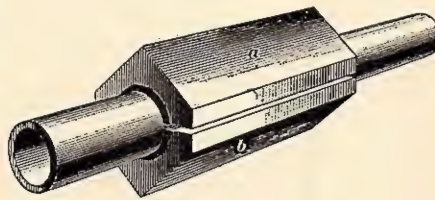

FIG. 23
33. Friction clamps made as shown in Fig. 23 are used for fixing a pipe in the pipe vise. The clamps a and b are made to fit the jaws of an ordinary vise, and the curve is formed to fit a standard size of pipe. The curve is lined with rubber or some other soft body. The pipe-vise jaws compress a and b and the pipe then cannot slip. The clamps are made long so as
his own friction clamps. A common iron-pipe coupling is sawed into equal parts *a* and *b*, and then lined with thick sheet-lead pieces *c*, *d*. They grip the pipe like *a* and *b*, in Fig. 23, but with heavy pressure from the pipe vise these clamps are liable to spread. Powdered rosin is usually sprinkled in these clamps to prevent the pipe slipping. This can be washed off the pipe with kerosene oil after the threads are cut. If the pipes are nickel plated, care must be taken to prevent their slipping in the clamps; otherwise ugly rings will be scratched around the pipe, which indicates careless workmanship.